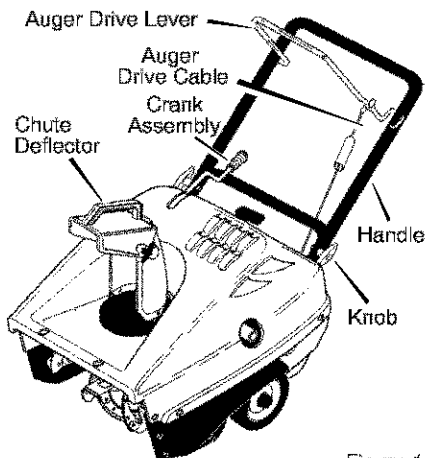

Figure 1
Figure 1 shows the snow thrower in the operating position.
1. Loosen the knobs on each side of the handle (Figure 1).